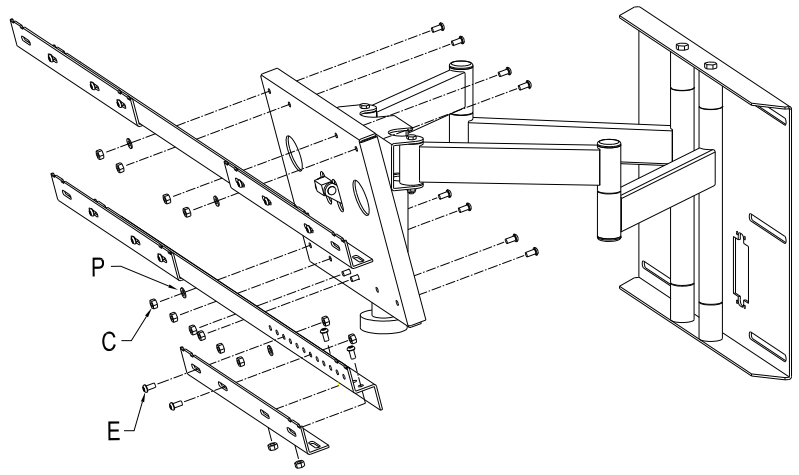

Figure 4
8. Attach Zee-Bars to Zee-Bar Plate Assembly. See Figure 4.